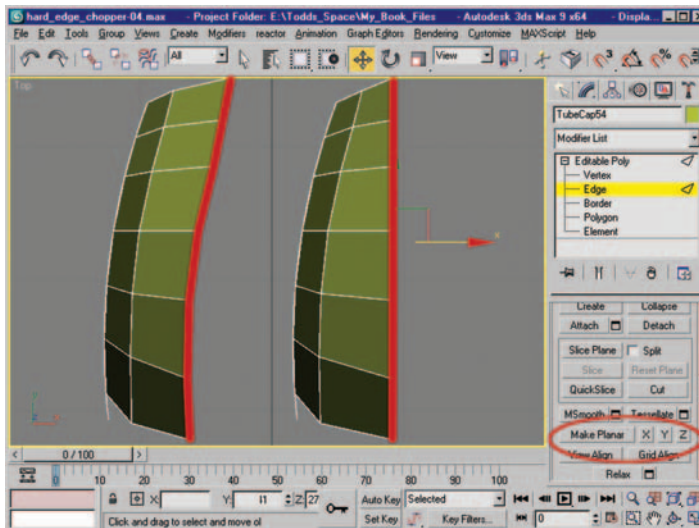

Figure 8.18 Edge selection before and after using Make Planar.
21. In the top viewport, at the Edge subobject level, select the edges shown in Figure 8.18 (left). Use Make Planar along the Z-axis to create a straight row of edges (Figure 8.18, right).